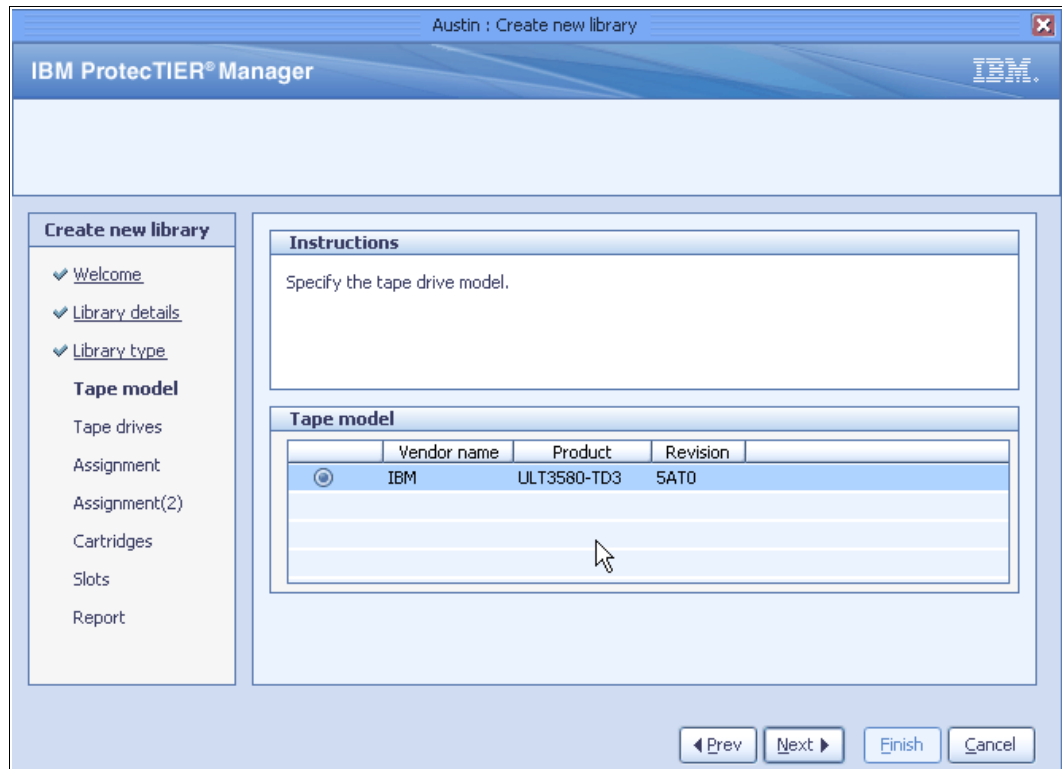

Figure 5-70 Create new library Tape Model window
6. Click **Next**. The Tape Model window opens. Select the tape drive model that you to use for your virtual library (Figure 5-70).